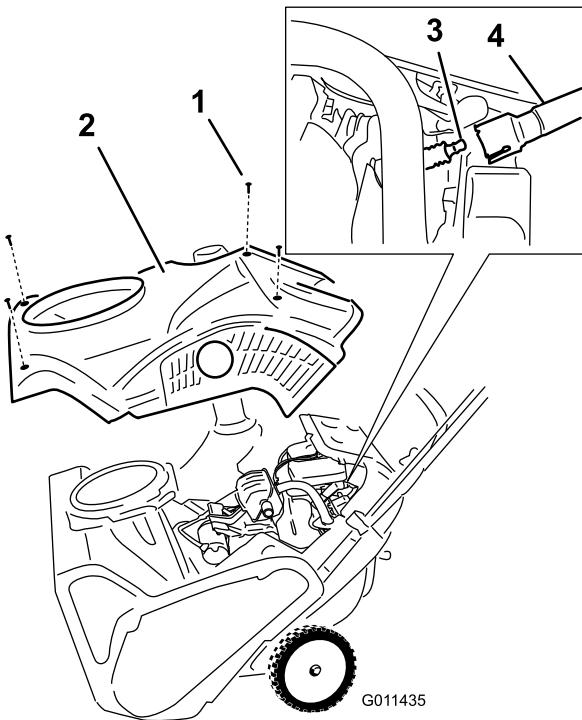

Figure 33
1. Large screws (3)	4. Small screw
4. Remove the 4 screws that secure the shroud (Figure 33).
1. Screw (4)	3. Spark plug
6. Remove the shroud (Figure 33).